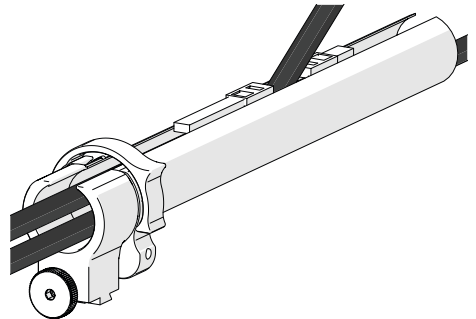

Fig. 98 - Flexibility
4. When necessary, the two zippers may be opened to allow any cables to exit the tube anywhere between the ends (*Fig. 98*).